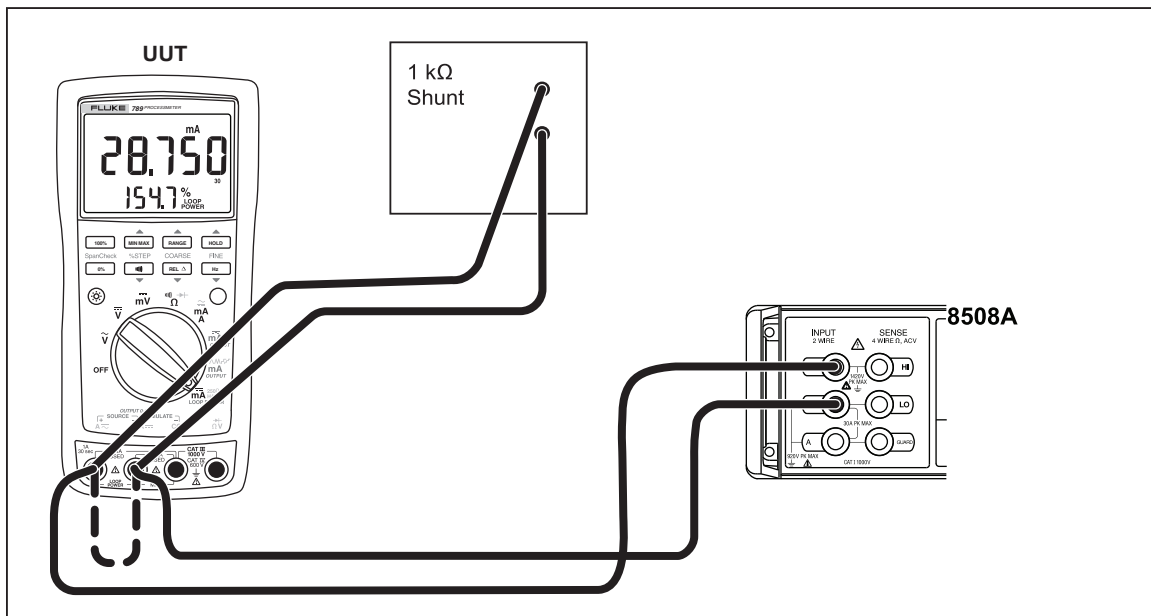

Figure 2. Verifying Loop Power
8. Measure the loaded down voltage and verify it is >23.8 V and <32 V, see Figure 2.